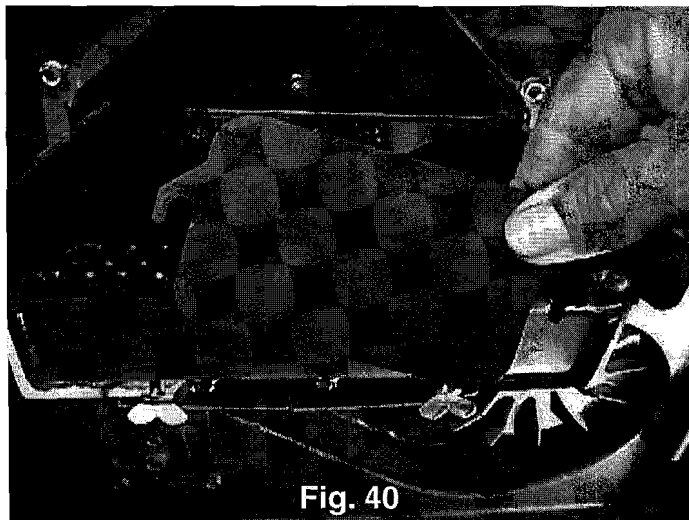

Fig. 40
2. Loosen the (2) wing thumb screws on the lower front angle of the burn pot. (Fig. 40)
3. Lift off the clean-out cover (Fig.40) to open the bottom clean-out chamber. (Fig.41)